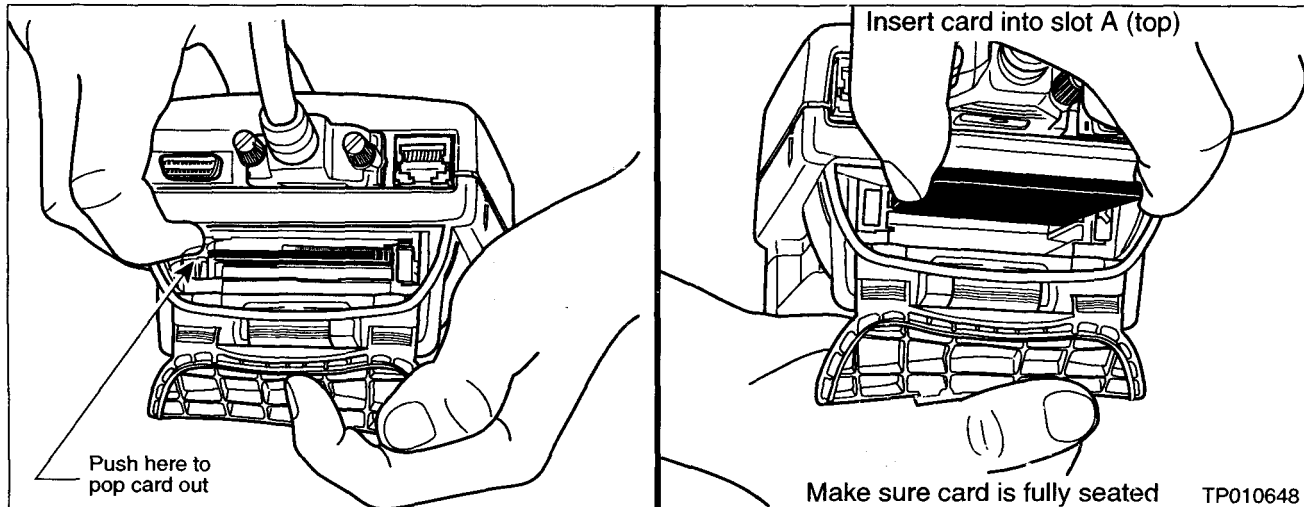

Figure 17
26. Remove the Diagnostics (red/white) card from slot A of CONSULT II and install the ECU Reprogramming card (orange) into slot A (see Figure 17).